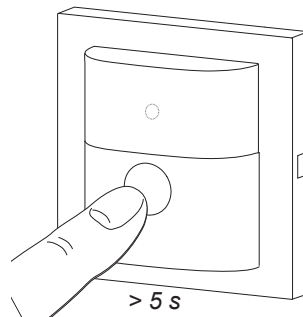

Figure 29: Saving new scene parameters
- Hold the button for "Scene TV" for longer than 5 s (Bild 29)